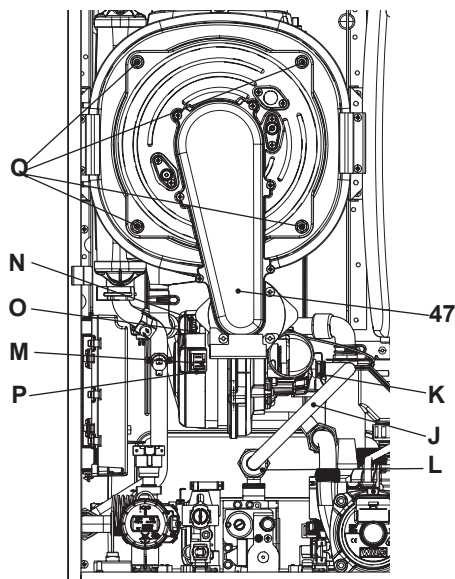

Fig. 9.12
Removing the fan burner unit 47 in Fig. 9.12.
- Insert a flat screwdriver in the connector recess P and lever towards the bottom, disconnect the connector at the same time M by pulling towards the front M (Fig. 9.12).
- Disconnect the fan connector N by pressing the plastic hook O positioned at the bottom part of the connector (Fig. 9.12).
- Unscrew screws Q and remove the fan burner unit 47 (Fig. 9.12)
- Unscrew the Q screw nuts and remove the burner group fan 47 (Fig. 9.12)